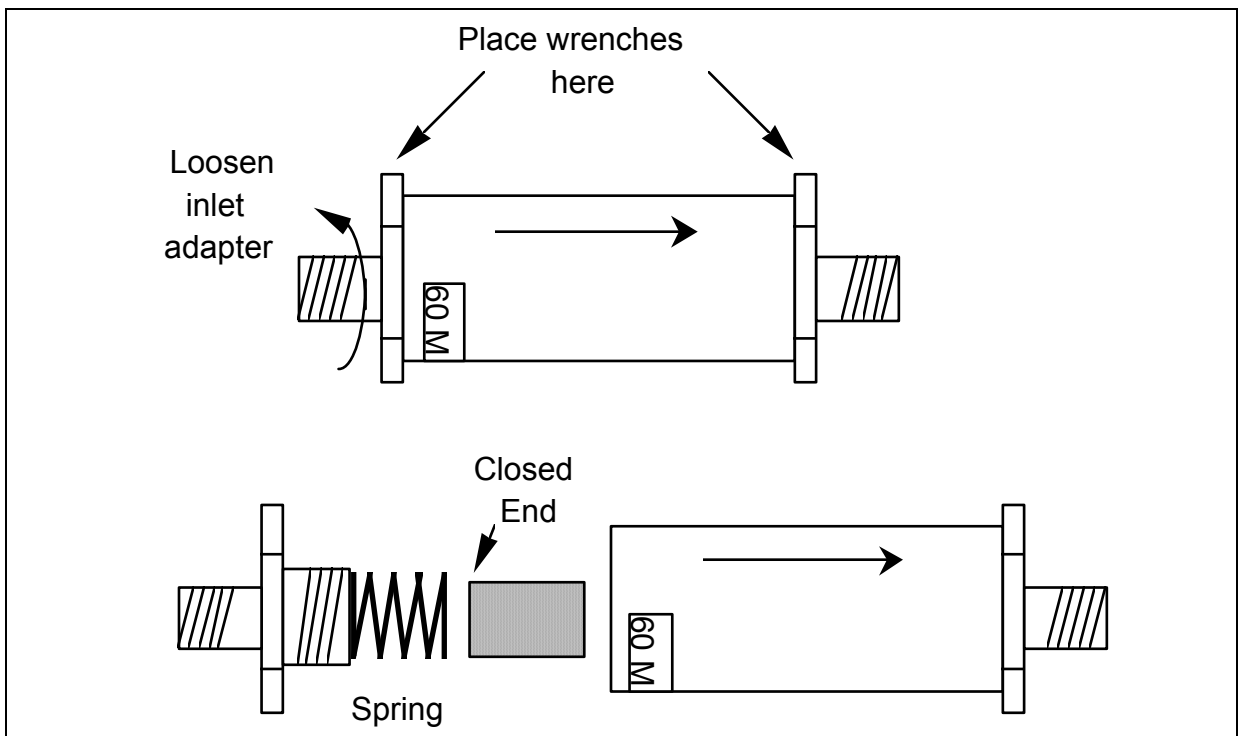

FIGURE 8-1: Replacing the In-Line Filter Element.
4. Position the 3/4" wrenches on the ends of the filter (see Figure 8-1). Loosen the adapter on the inlet side of the filter.